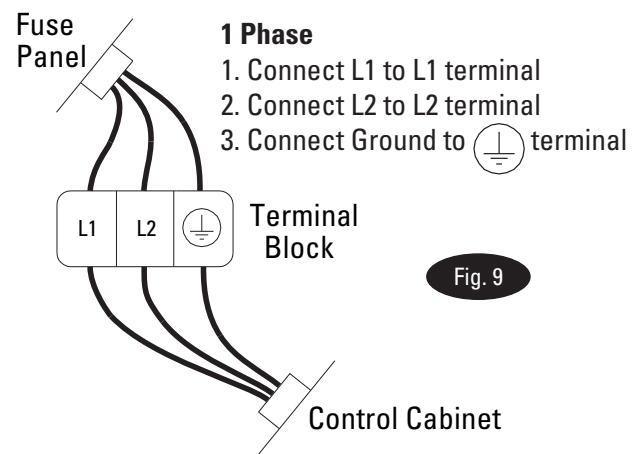

Fig. 9
1. A certified electrician should install the electrical service to the control cabinet, Fig. 9.